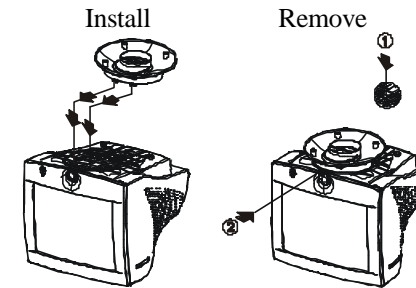

Figure 1 Installing and Removing the Swivel Base
- Carefully turn the monitor on its side or upside down. (see Figure 1)